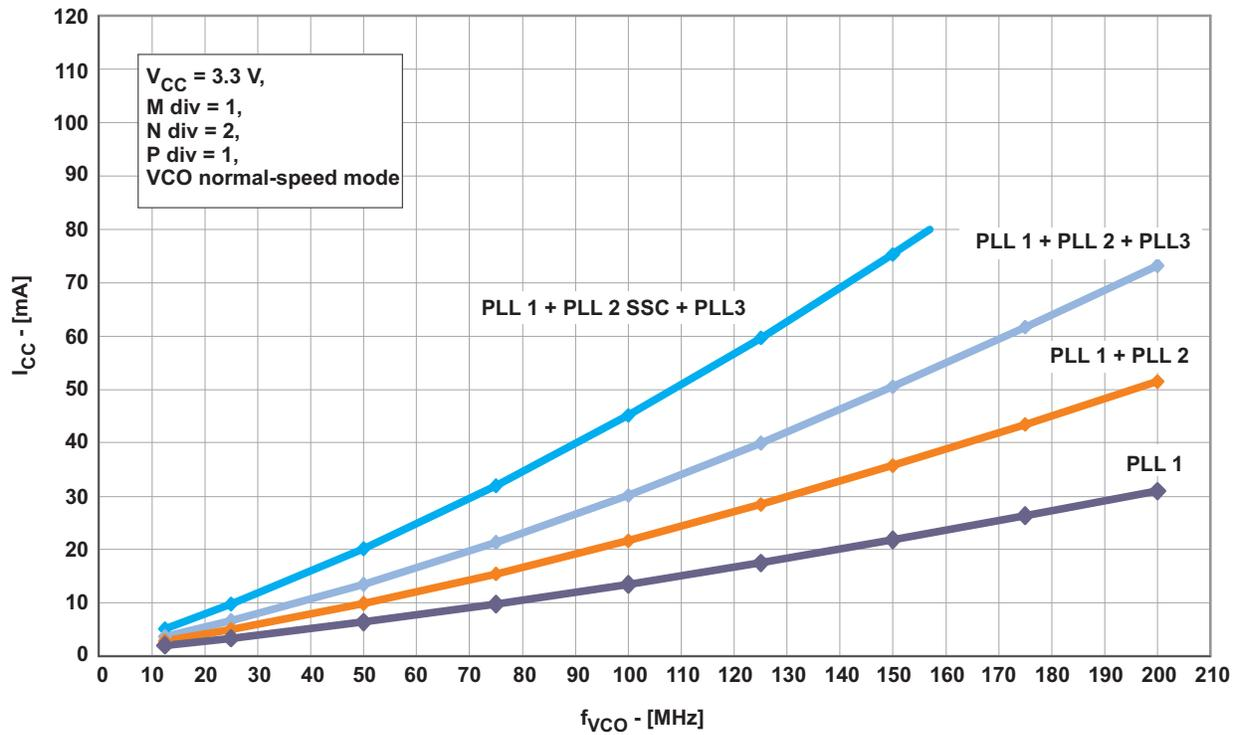
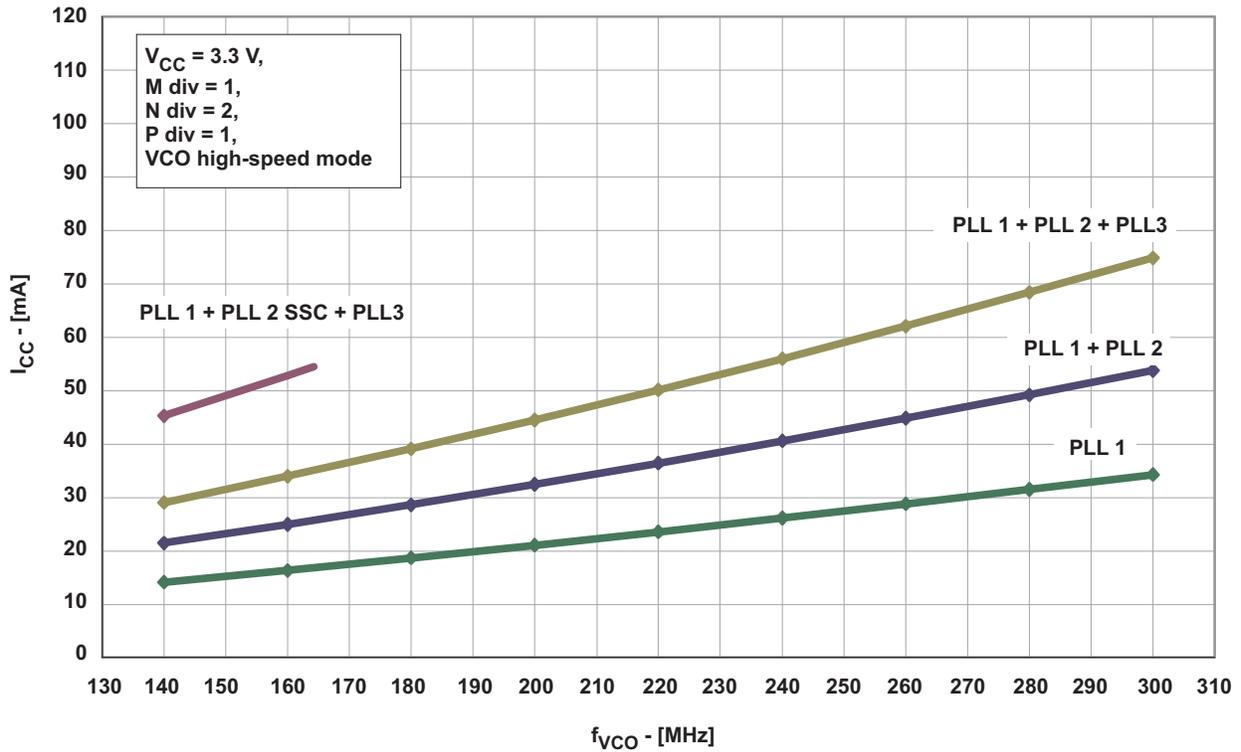
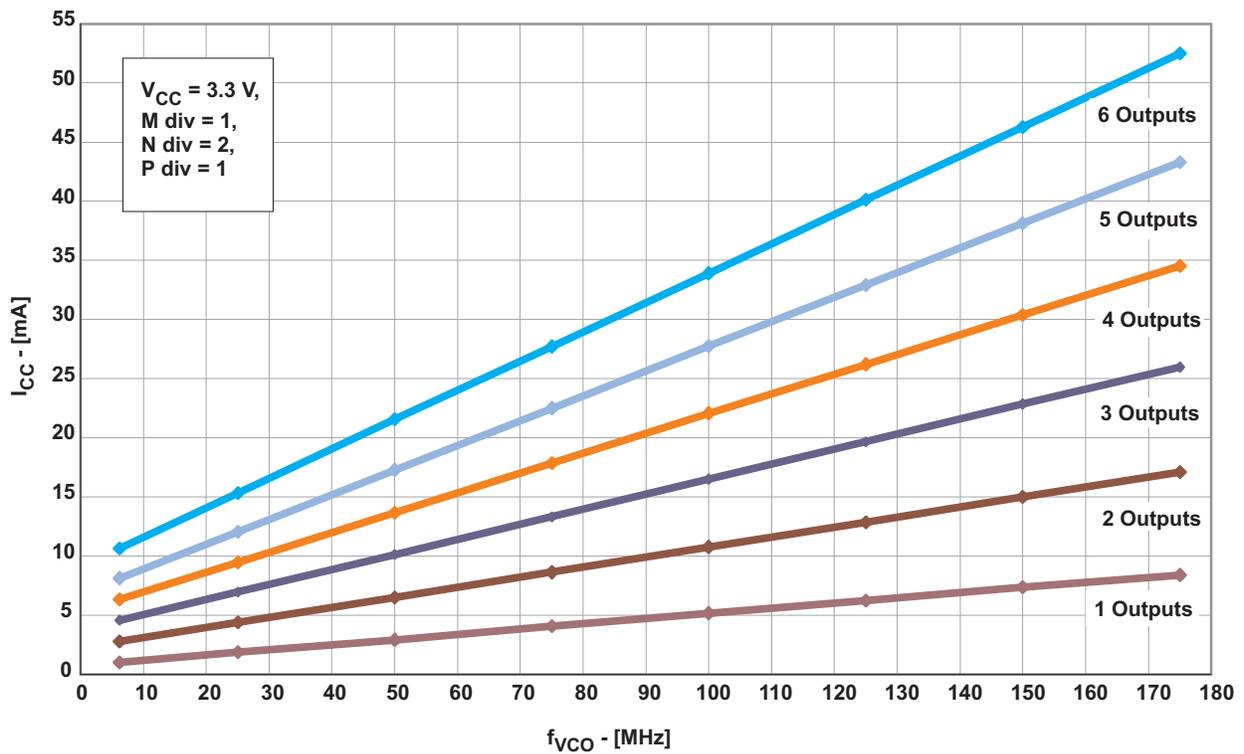

Figure 2. I_{CC} vs Number of PLLs and VCO Frequency (VCO at Normal-Speed Mode, Byte 6 Bit [7:5])
Figure 3. I_{CC} vs Number of PLLs and VCO Frequency (VCO at High-Speed Mode, Byte 6 Bit [7:5])
Figure 4. I_{CCOUT} vs Number of Outputs and VCO Frequency
(1) All typical values are at respective nominal V_{CC} .(2) For calculating total supply current, add the current from Figure 2, Figure 3, and Figure 4. Using high-speed mode of the VCO reduces the current consumption significantly. See Figure 3.(3) Normal-speed mode or high-speed mode must be selected by the VCO frequency selection bit in Byte 6, Bit [7:5]. The min f_{VCO} can be lower but impacts jitter-performance.
(4) The maximum output frequency may be exceeded, but specifications under the Recommended Operating Condition may change and are no longer assured. Do not exceed the maximum power dissipation of the 20-pin TSSOP package (600 mW at no air flow).